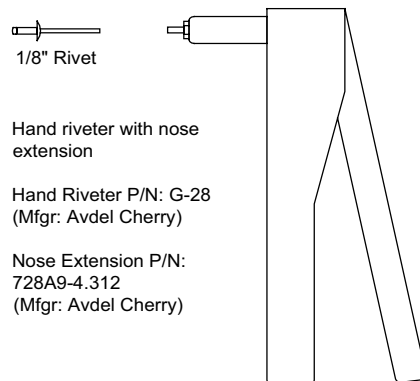

Figure 3: Rivet Tool
- Pop Rivet Tool (See Figure 3)
- Pop Rivets for Magnet Mounting (See Figure 3)